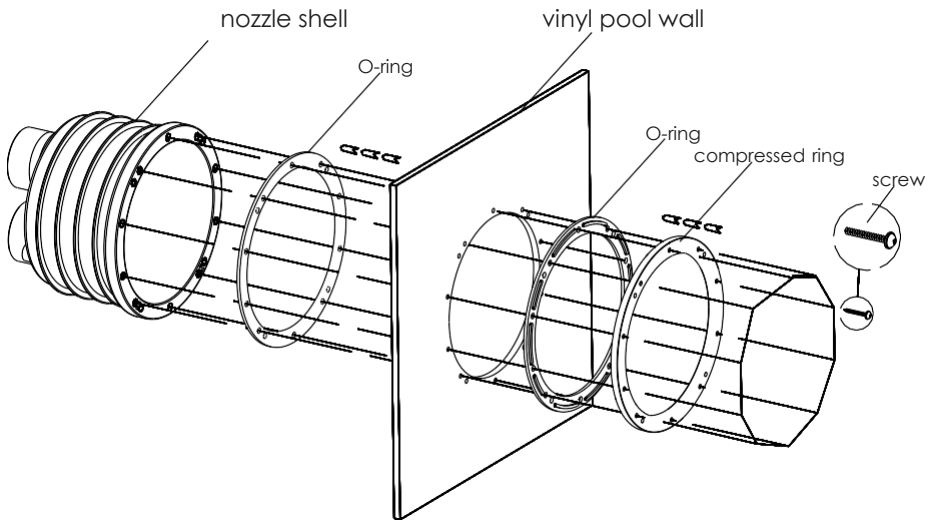

Figure 4
e) Install the outer shell, plastic ring, in the correct order on the pool shell wall. (Figure 4)